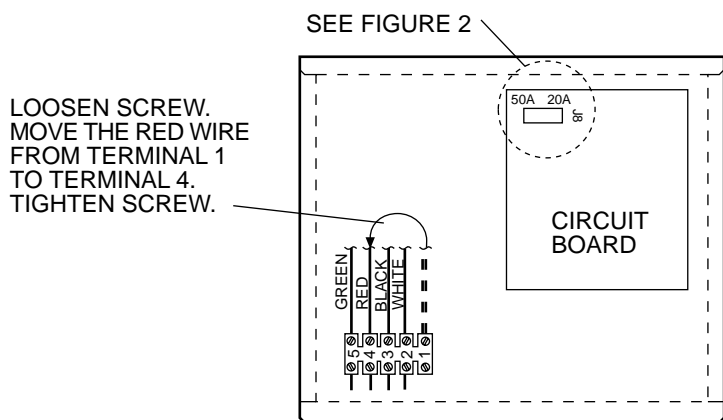

FIGURE 1
7. Move the jumper at circuit board location J8 from 20A position to 50A position. Refer to Figures 1 and 2.